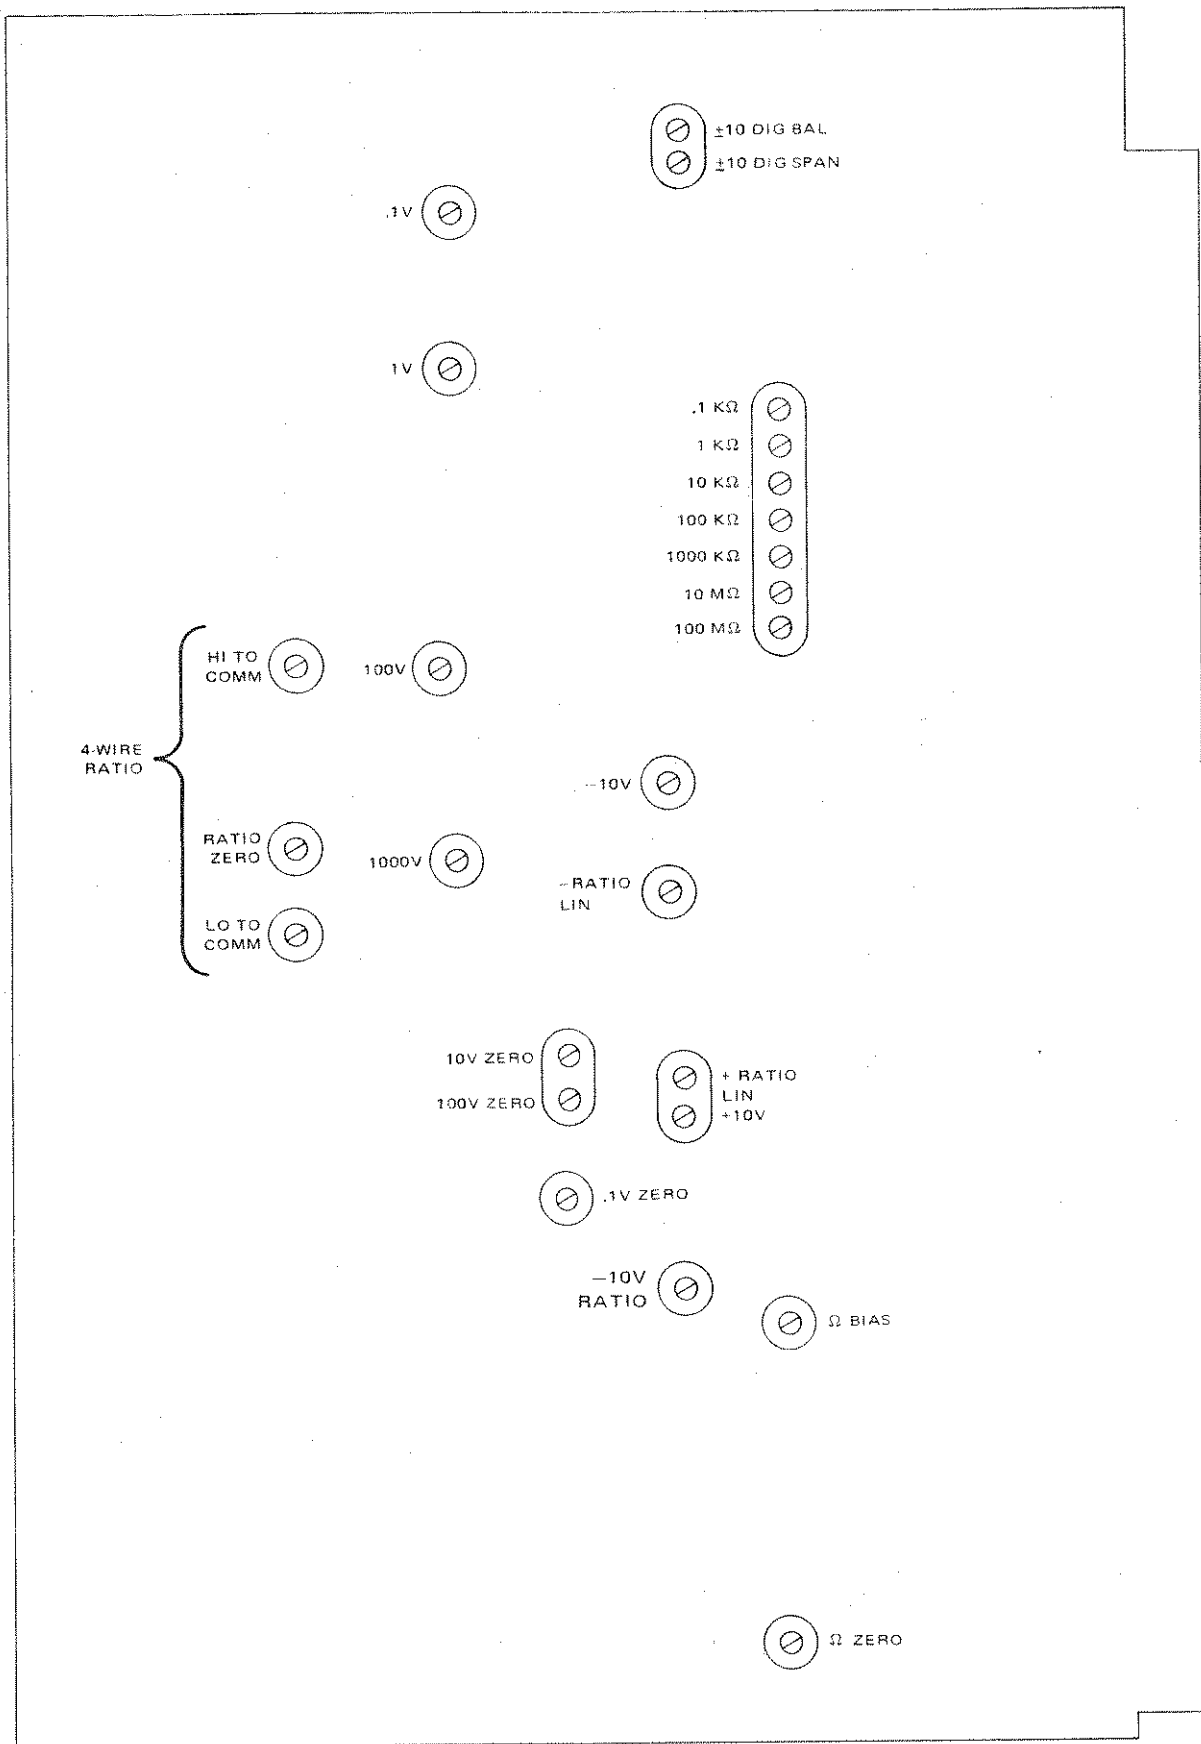
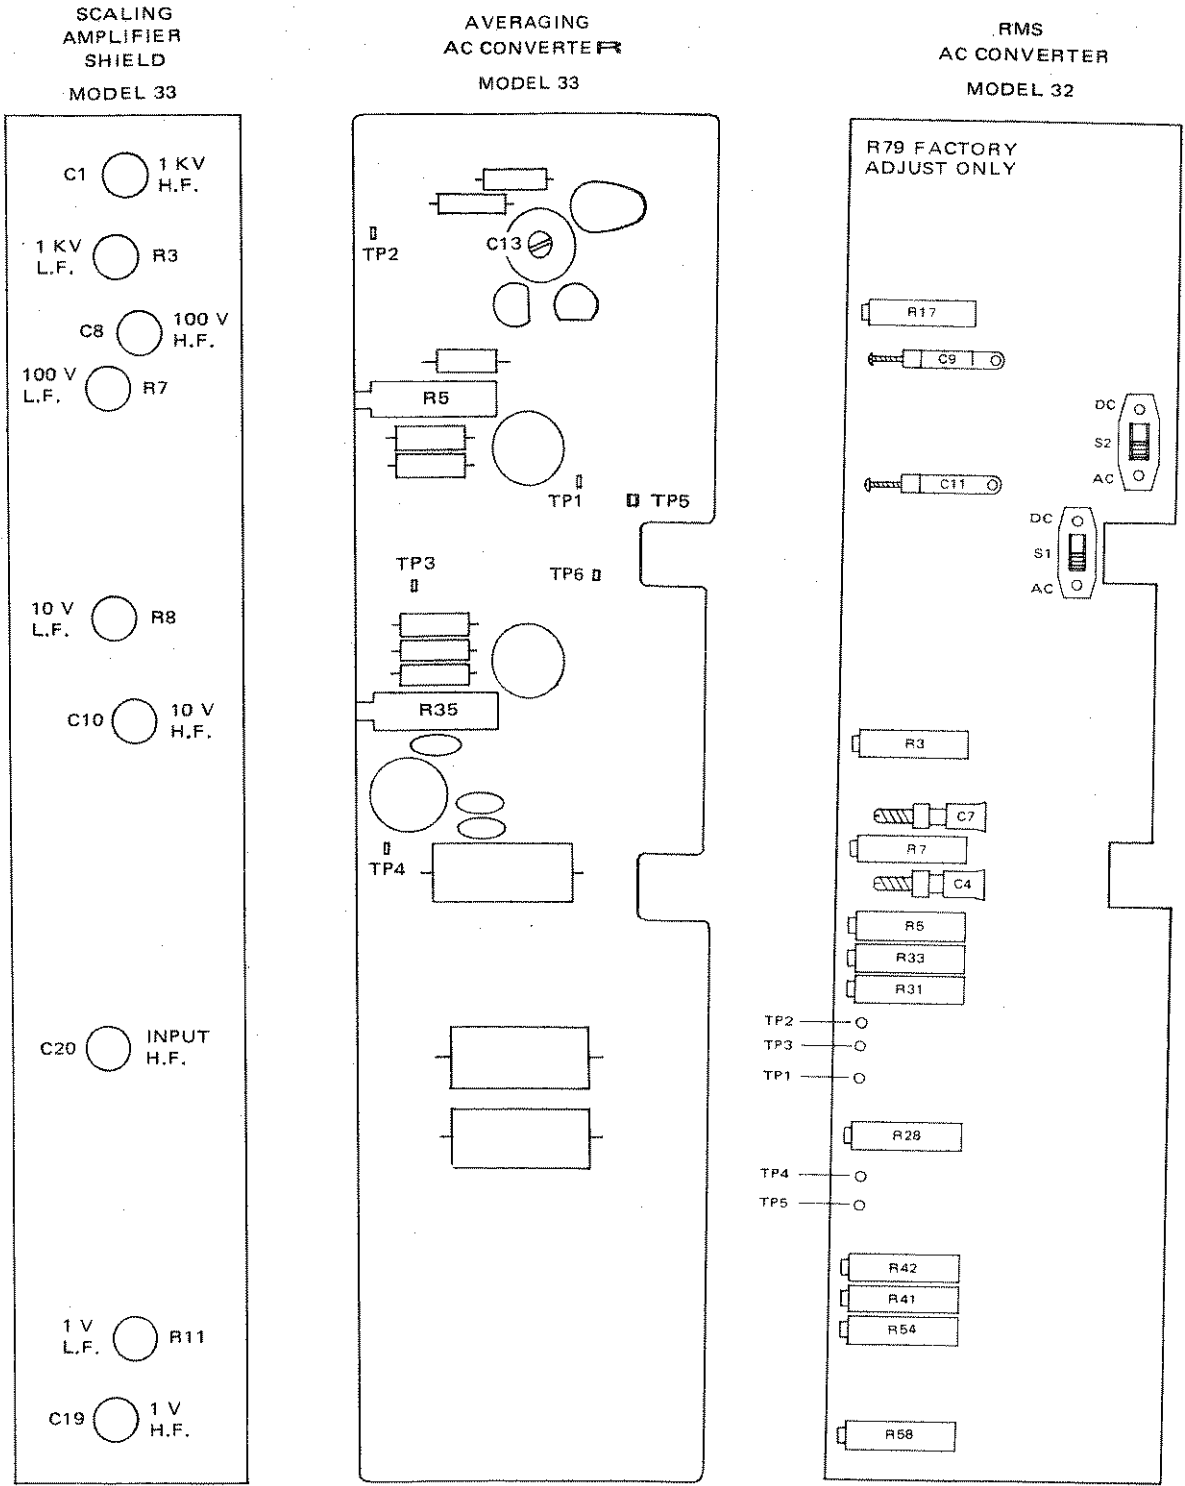

Figure 5.4 - Adjustment Locations
Figure 5.8 - AC Adjustment Locations
5.29 The location of the calibration points (except ac) used in the calibration procedure are shown in figure 5.4. The ac calibration points are shown in figure 5.8. Access to the calibration points is gained by removal of the top cover; the cover is secured to the DMM by captive screws located in each of the four corners of the cover. Directly beneath the cover is located a metal shield with access holes to calibration points (except ac). The shield is part of the instrument internal guard system and helps to reduce noise. For reference, an abbreviated form of the basic calibration procedure is silkscreened to the top of the shield. The shield is to be left in place unless specific instructions are given for removal.
### 5.38 OHMS CALIBRATION (Figure 5.4).
**5.42 AC Converter Zero (Figure 5.8).**